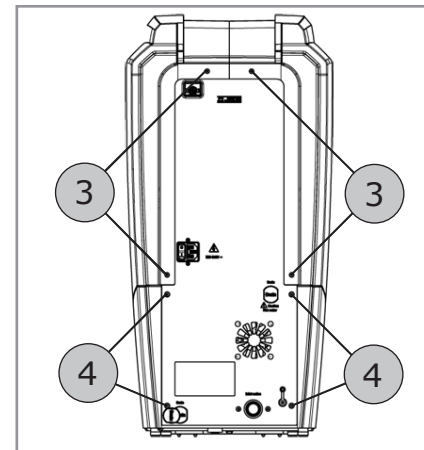

Figure 28
3. Remove the screws (3) from the back side of the machine (figure 28).
3. Remove the screws (4) from the back side of the machine (figure 28).